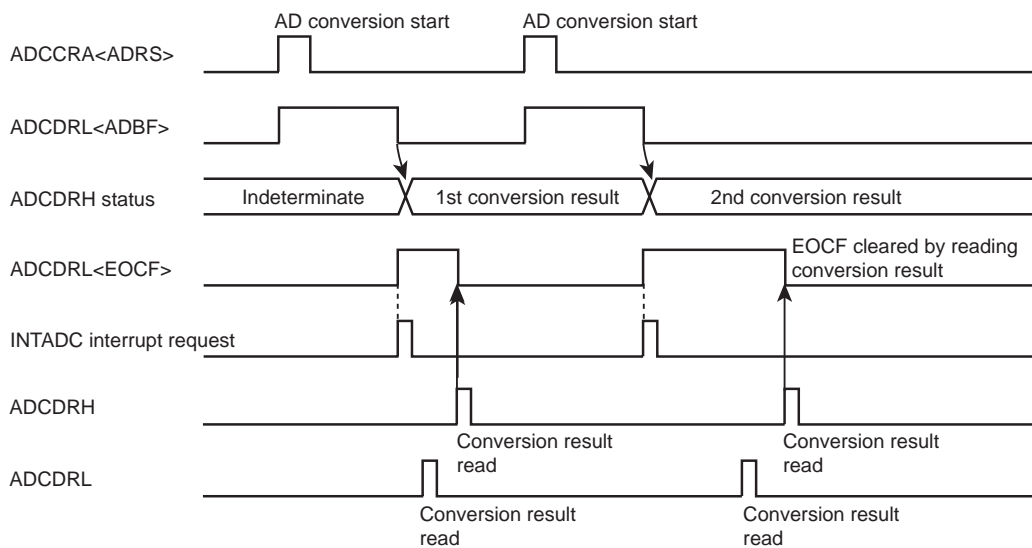

Figure 16-2 Software Start Mode
- Set the AD conversion time using AD conversion time (ACK). For details on how to set the conversion time, refer to Figure 16-1, Figure 16-2 and AD converter control register 2.
3. After setting up (1) and (2) above, set AD conversion start (ADRS) of AD converter control register 1 (ADCCRA) to "1". If software start mode has been selected, AD conversion starts immediately.